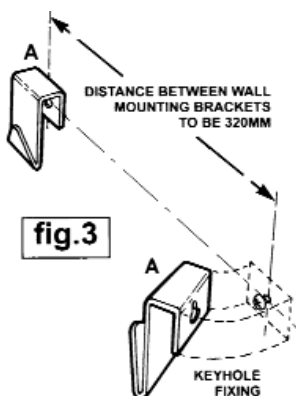
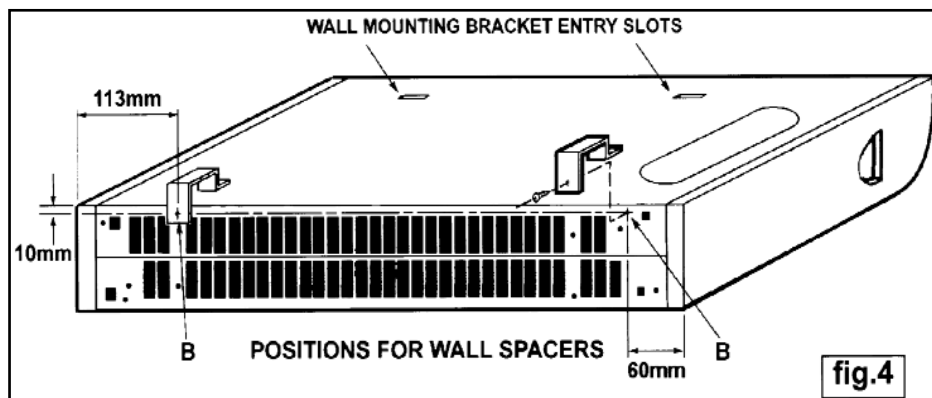

fig.3
fig.4
- 3.3. **Wall mounting the heater.** The wall mounting kit consists of two wall mounting brackets as shown in fig.3. and two wall spacers as shown in fig.4. Locate the heater close to a mains supply socket. To eliminate excess cable lying on the floor it will be necessary to shorten the cable to one short loop. Remove the plug. Shorten the cable and rewire the plug as shown in section 1.1.9.
- 3.7. Attach the two wall spacers to the rear of the heater at the bottom edge as shown in fig.4. (Identify the correct mounting holes by referring to the dimensions shown on fig.4.)